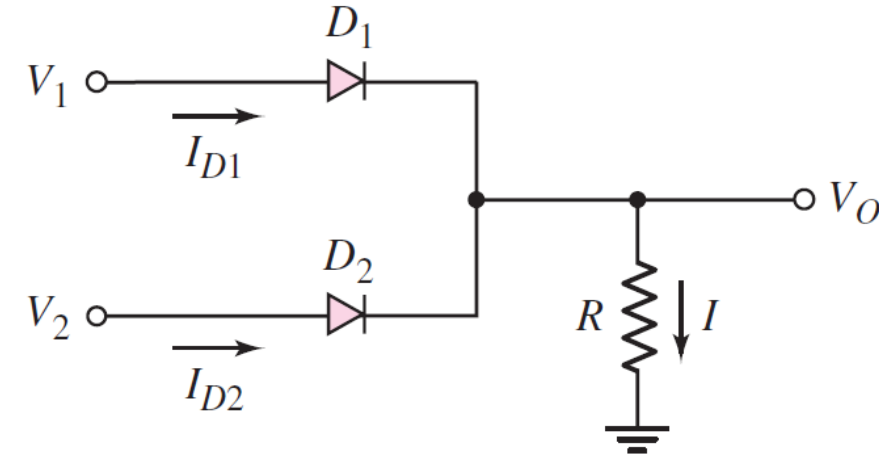

Figure 2.41
- The circuit in Figure 2.41 is an example of a **diode logic circuit**.